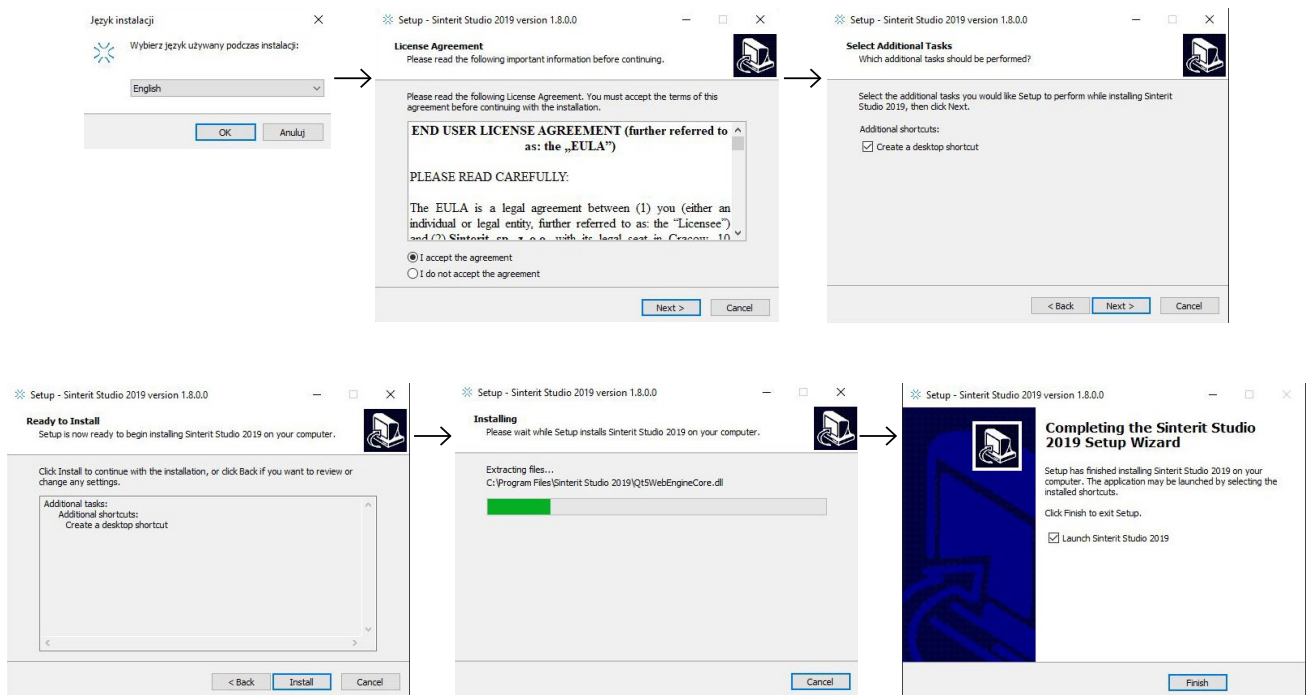

Fig. 1.1 On-screen instructions during installation.
4. Follow the on-screen instructions (Fig 1.1).